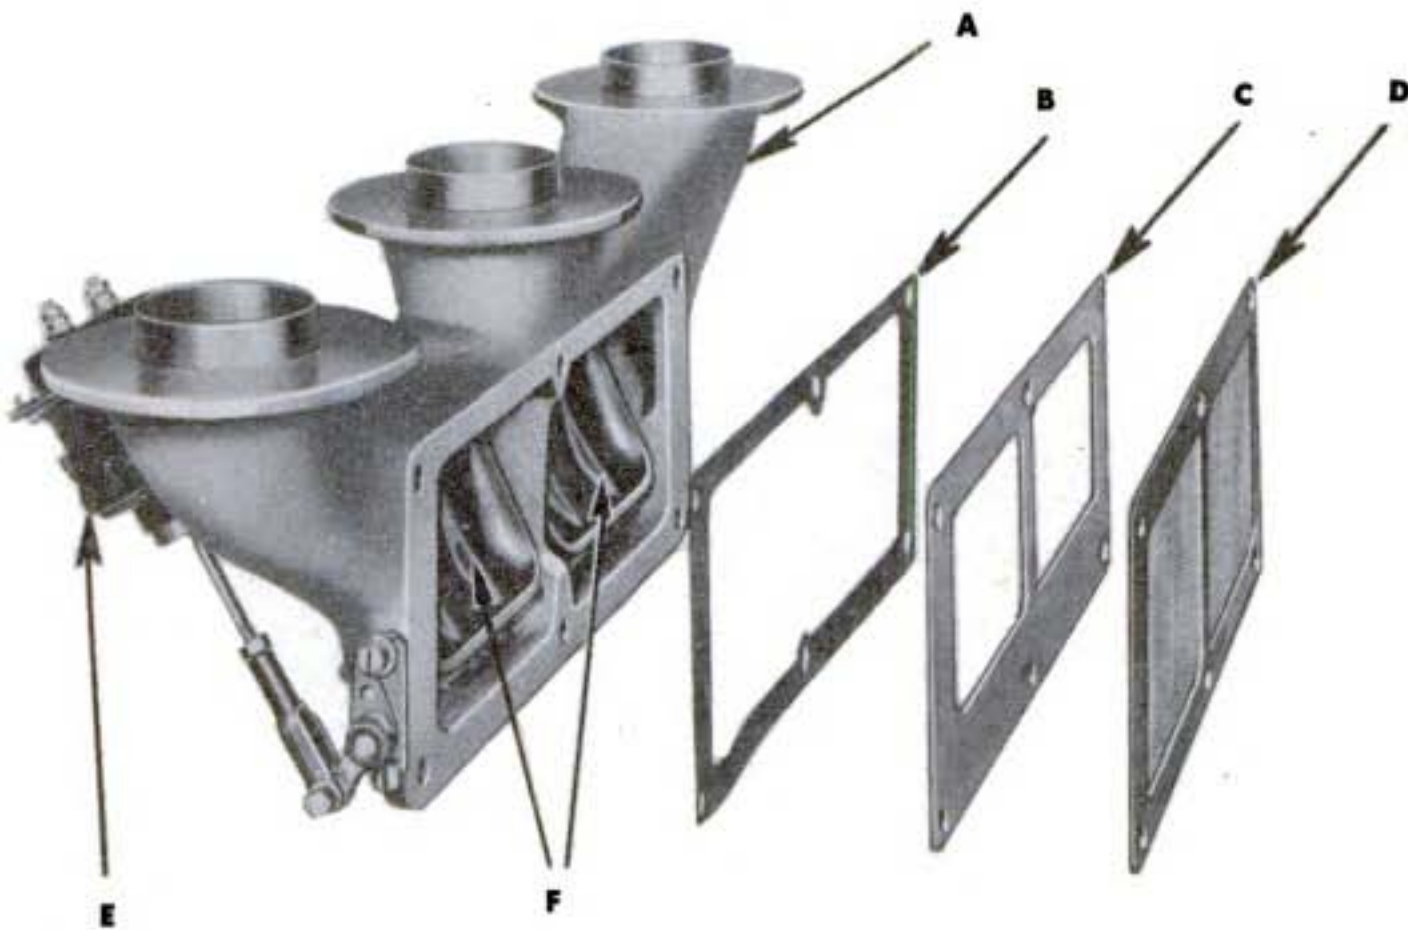

Figure 63—Air Cleaners, Disassembled
drawn into a cleaner passes down over the oil in the reservoir where the larger particles of dust are trapped. The air then passes up through the oil-wetted metallic filtering element and down the center duct to the blower. Two types of air cleaners (fig. 63) differing slightly in construction are used. The A.C. type is identified by horizontal louvers in the upper section and the Donaldson type by vertical openings. All six air cleaners on any one power unit must be of the same type.
c. **Servicing Air Cleaners.** The oil level must be maintained at, but not above, the bead level mark (fig. 63). If the reservoirs are filled to a point above the level mark, the excess lubricating oil will be drawn over into the blower and forced into the cylinders in vapor form. This may cause serious damage. The reservoirs must be cleaned before the quantity of trapped dirt exceeds $\frac{1}{2}$ -inch in depth or at every 50- and 100-hour Preventive Maintenance Service (par. 33, item 43). The elements must be cleaned whenever inspection shows that any appreciable quantity of dirt has accumulated to restrict the flow of air.
d. **Refilling Air Cleaner Reservoirs.** Remove all six air cleaners (par. 88 b). Inspect body and reservoir for leaks. Lift off upper section. **NOTE:** *On Donaldson type, remove snap ring and baffle in base.* Empty reservoir and scrape out trapped sediment (fig. 63). Wipe reservoir clean with cloth soaked in Diesel fuel. Examine seals at under side of reservoir and between upper and lower sections and, if necessary, replace seals to insure airtight connections. On Donaldson type, install baffle and snap ring. Pour engine oil or used crankcase oil, seasonal grade, into reservoir to level of mark (fig. 63). Do not fill reservoir above level mark. Place upper section on lower section. Install air cleaners (par. 88 f).